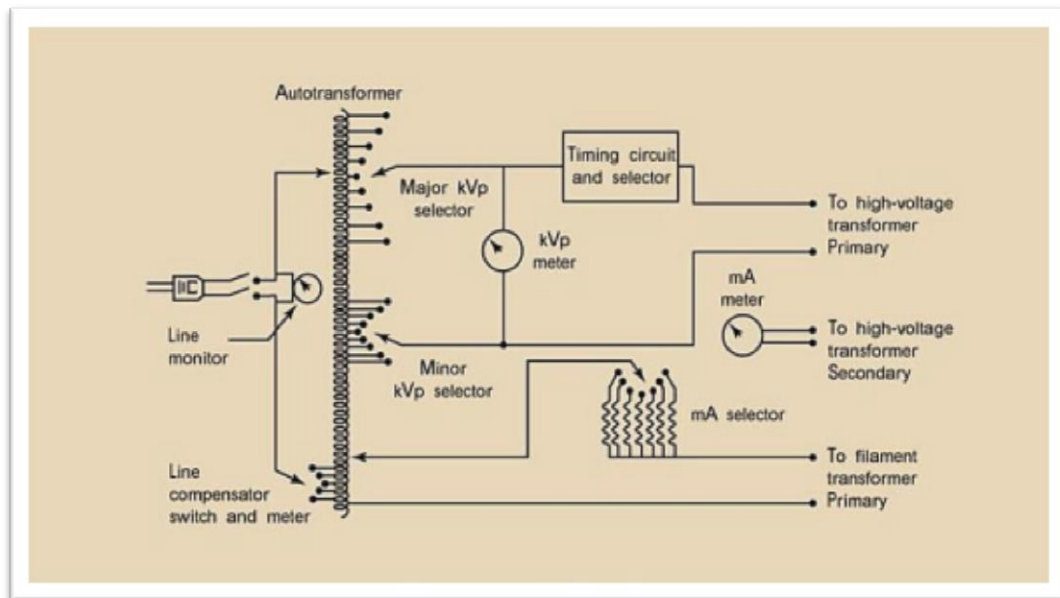

Figure 2: console circuit.
The operating console usually provides for control of line compensation, kVp, mA, and exposure time as in figure 2.
- Another 2 points of the winding of the autotransformer are connected with the wires providing output to the other components (secondary connection). Figure 2 shows the console circuit.